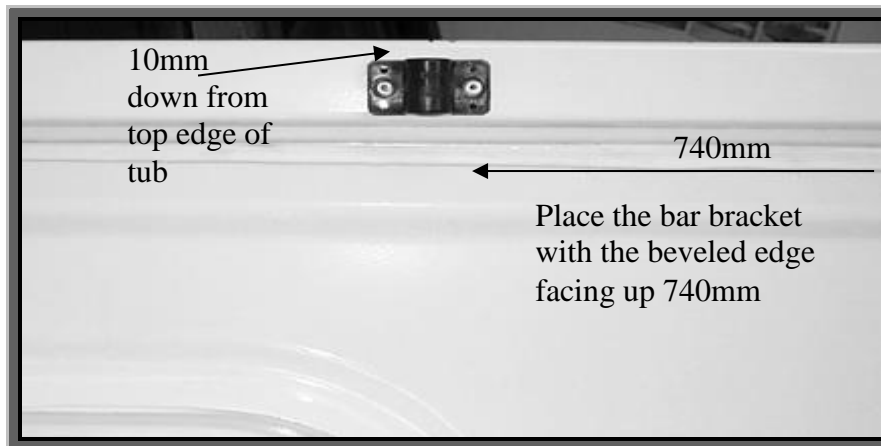

Figure 1
1. With the pencil mark the inside edge on each side of the tub at 740mm from the inside front face of tub towards the rear on each side. Centrally locate the bar bracket over this position and align the top of the bar bracket 10mm down from the top edge of the tub and drill and rivet bracket into place. **See Figure 1.** Repeat for other side of tub. Fit tonneau support bar to bar brackets.